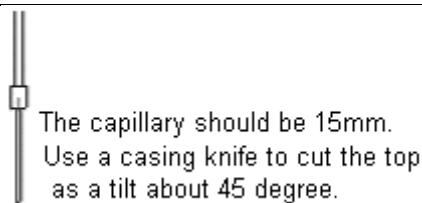

Fig. 2-2 Requirements of the capillary
10. Please refer to Fig.2-2 to observe the capillary. Make sure it is treated properly as required in the figure.